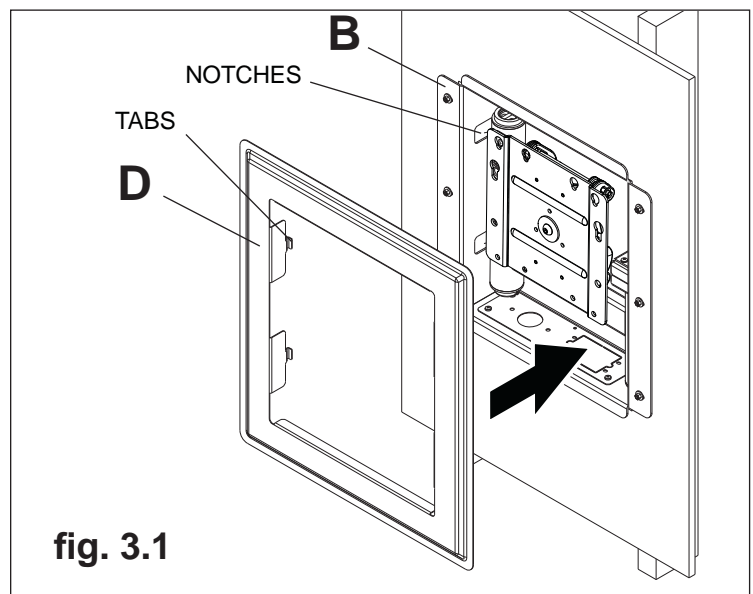

fig. 3.1
3 Insert tabs of outer trim (D) into notches of in-wall box (B) as shown in figure 3.1.